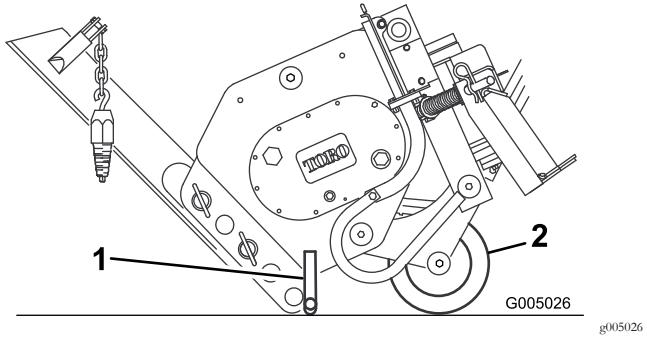

Figure 8
3. Swing the blade up and secure it as in \(Figure 8\).
4. Tilt the plow forward and lower it to the ground or trailer, with the stand and coulter supporting the weight of the plow \(Figure 8\).